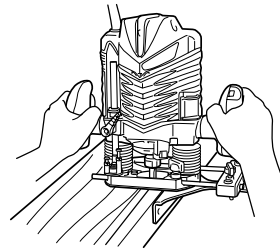

Fig. 12
- ② Insert the guide bar into the hole in the base, then firmly tighten the wing bolts (A) (standard accessories).
- ③ Make minute adjustments of the dimensions between the bit and the guide surface with the feed screw, then firmly tighten the 2 wing bolts (B) on top of the bar holder and the wing bolt (C) that secures the straight guide.
- ④ As shown in Fig. 12, securely attach the bottom of the base to processed surface of the materials. Feed the router while keeping the guide plane on the surface of the materials.